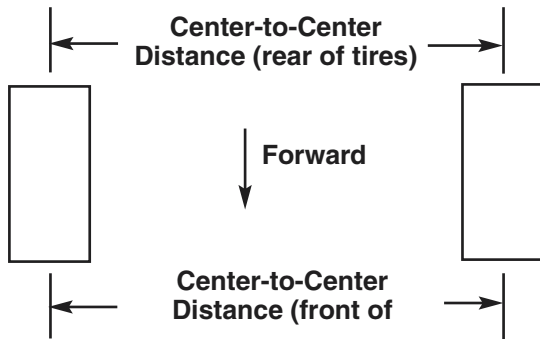

Figure 26
2. Measure the distance between both of the front tires at the axle height (at the front and rear of the wheels) (Fig. 26). The front measurement must be equal to the rear measurement $\pm 1/4$ in. (6.4 mm).